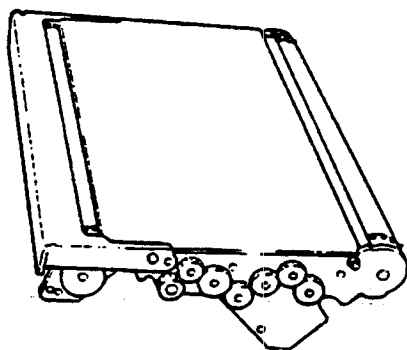
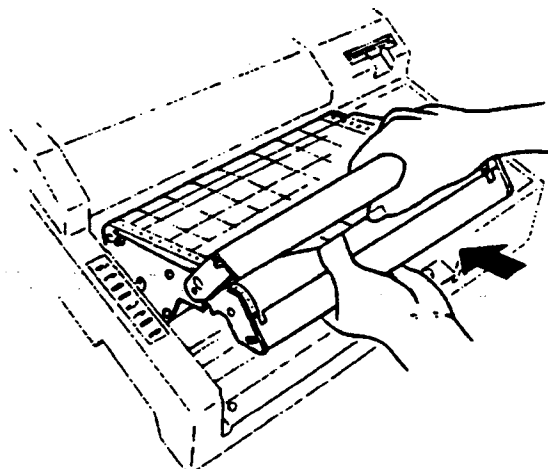

Figure 6.24
Figure 6.25
6. Install the roll chart in the reroll chart in the reroll chart cassette (See Figure 6.24) and install the reroll chart cassette in the recorder. (See Figure 6.25)